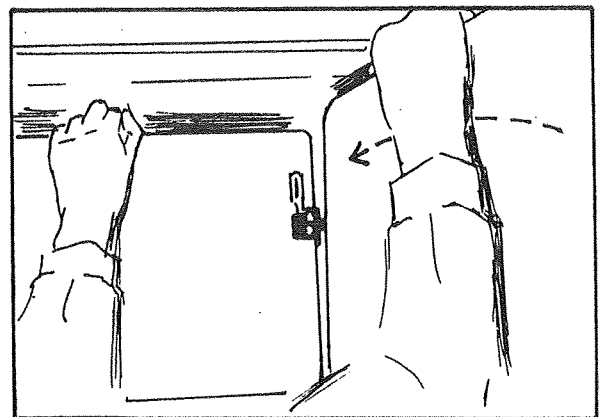

FIGURE 20
26. Secure the front wall section and interior wall together by engaging the slider lock retainer in the upper righthand carrier. See Figure 20.